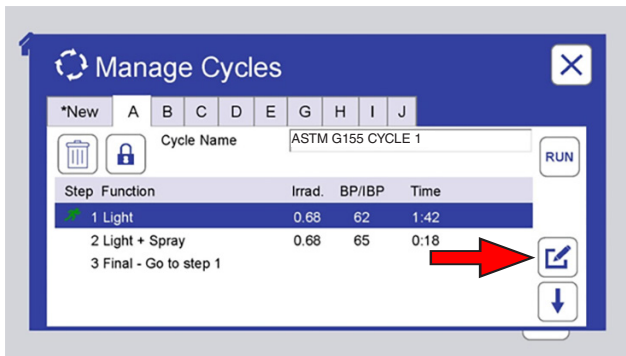
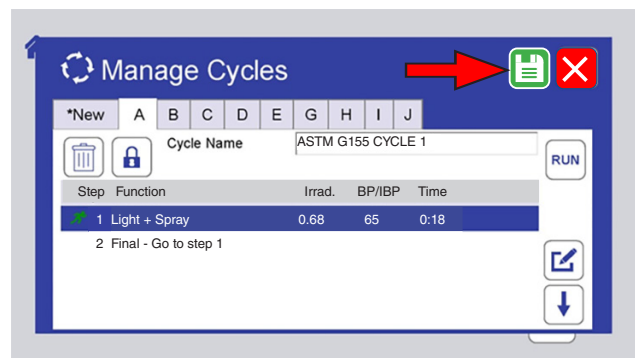

Figure 11.6.4a: For any cycle, a new step can be added before or after an existing step. Select the existing step then touch the Edit icon.
Figure 11.6.6d: Touch the save icon to save the edited cycle.
- Add, edit, or delete steps in a cycle (Figure 11.6.4a through Figure 11.6.6d). Pre-programmed test cycles cannot be edited (they can be deleted).